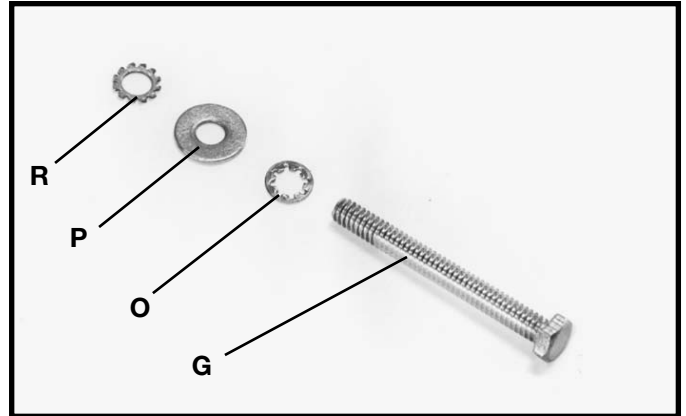

Fig. 10
5. Locate the 1/4-20 x 2-1/4" hex head screw (G) Fig. 10, and assemble the 1/4" internal tooth lockwasher (O), 1/4" flat washer (P) and 1/4" external tooth lockwasher (R) onto screw (G).